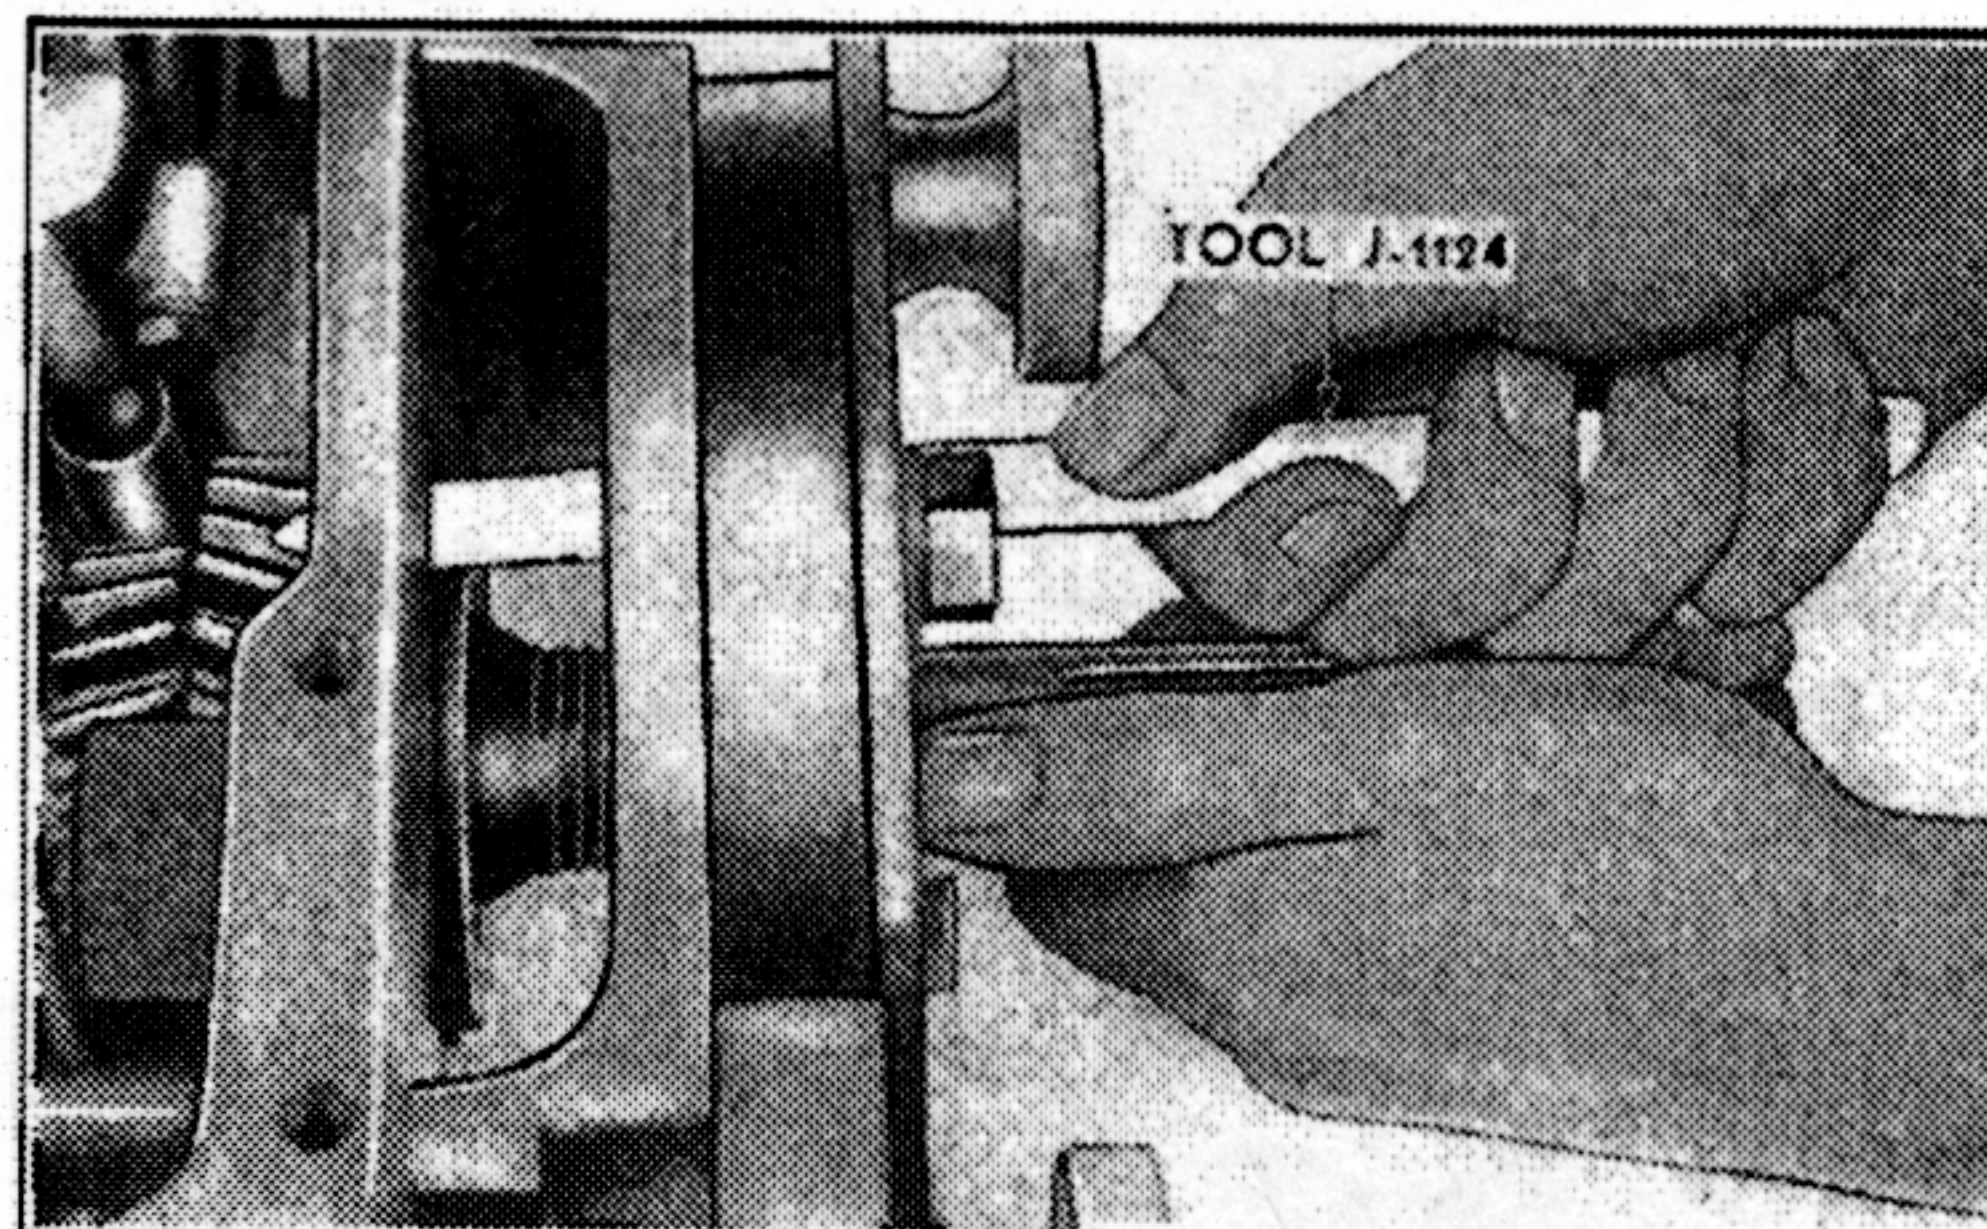

Fig. 17. Clutch Gear Removal
7. When removing clutch gear, the end-play adjusting screw should first be released as outlined on page 14 under "Universal and Ball Joint—Removal." Remove clutch gear, bearing and retainer as an assembly. This assembly is held by a snap ring in outer diameter. Ring must be expanded by a wedge-shaped tool, J-1124, inserted in case recess, which will spread ring (into groove in case) permitting clutch gear to be pulled out. See Fig. 17.